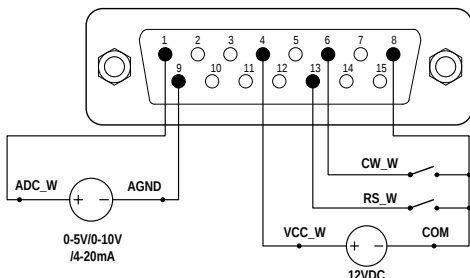
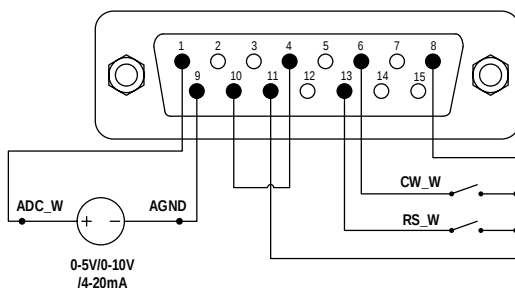

Figure 38. DB15 Wiring with External 12VDC Power Source
Figure 39. DB15 Wiring with Internal 12VDC Power Source
- 1) Power off the pump. Wire the DB15 connector as shown in Figure 38 or Figure 39, and connect it to the DB15 port on the rear of the pump.